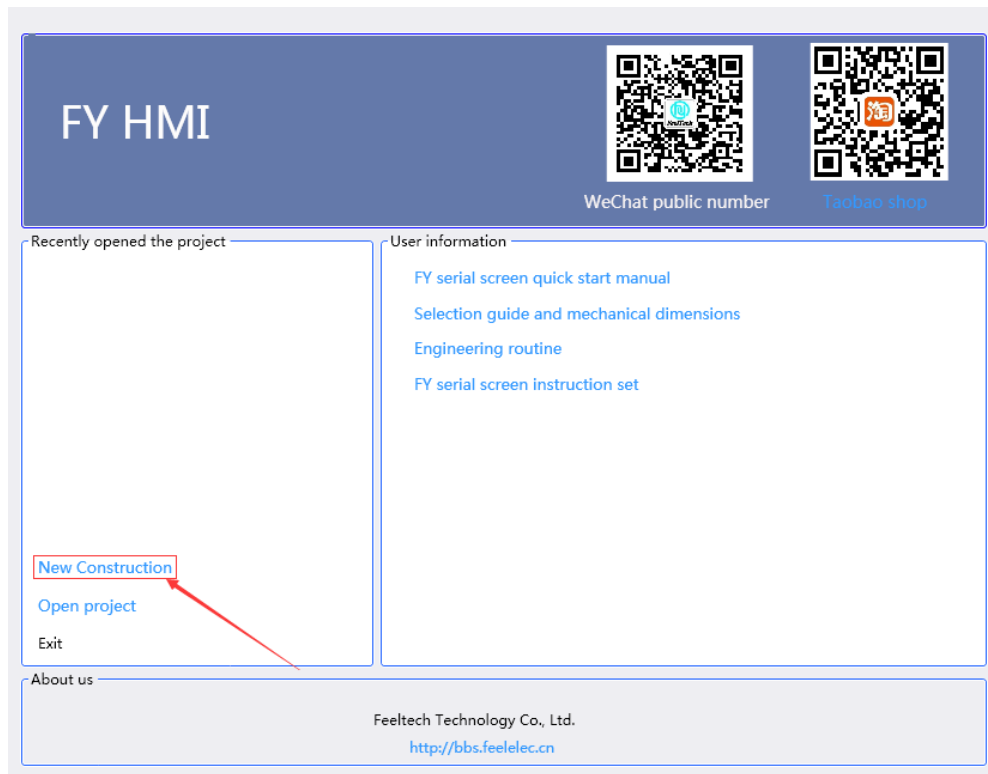

Figure 1-4
- 1) First step new project: Click "New Project" on the start interface, as shown in Figure 1-4, select the storage path and name for the project; if the project has been opened to enter the main interface, you can select "File" from the toolbar. "-> "New" way to create a new project.